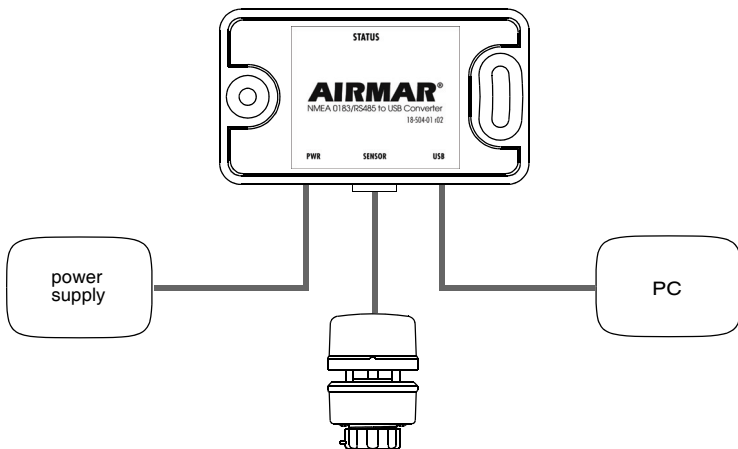

Figure 7. Converter installation
1. Select a convenient, dry, mounting location for the water-resistant Converter, a minimum of 1 m (3') from the PC (see Figure 7).